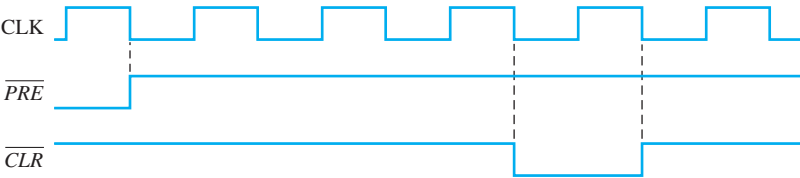

FIGURE 7-87
18. Solve Problem 17 with the same J and K inputs but with the \overline{PRE} and \overline{CLR} inputs as shown in Figure 7-87 in relation to the clock.